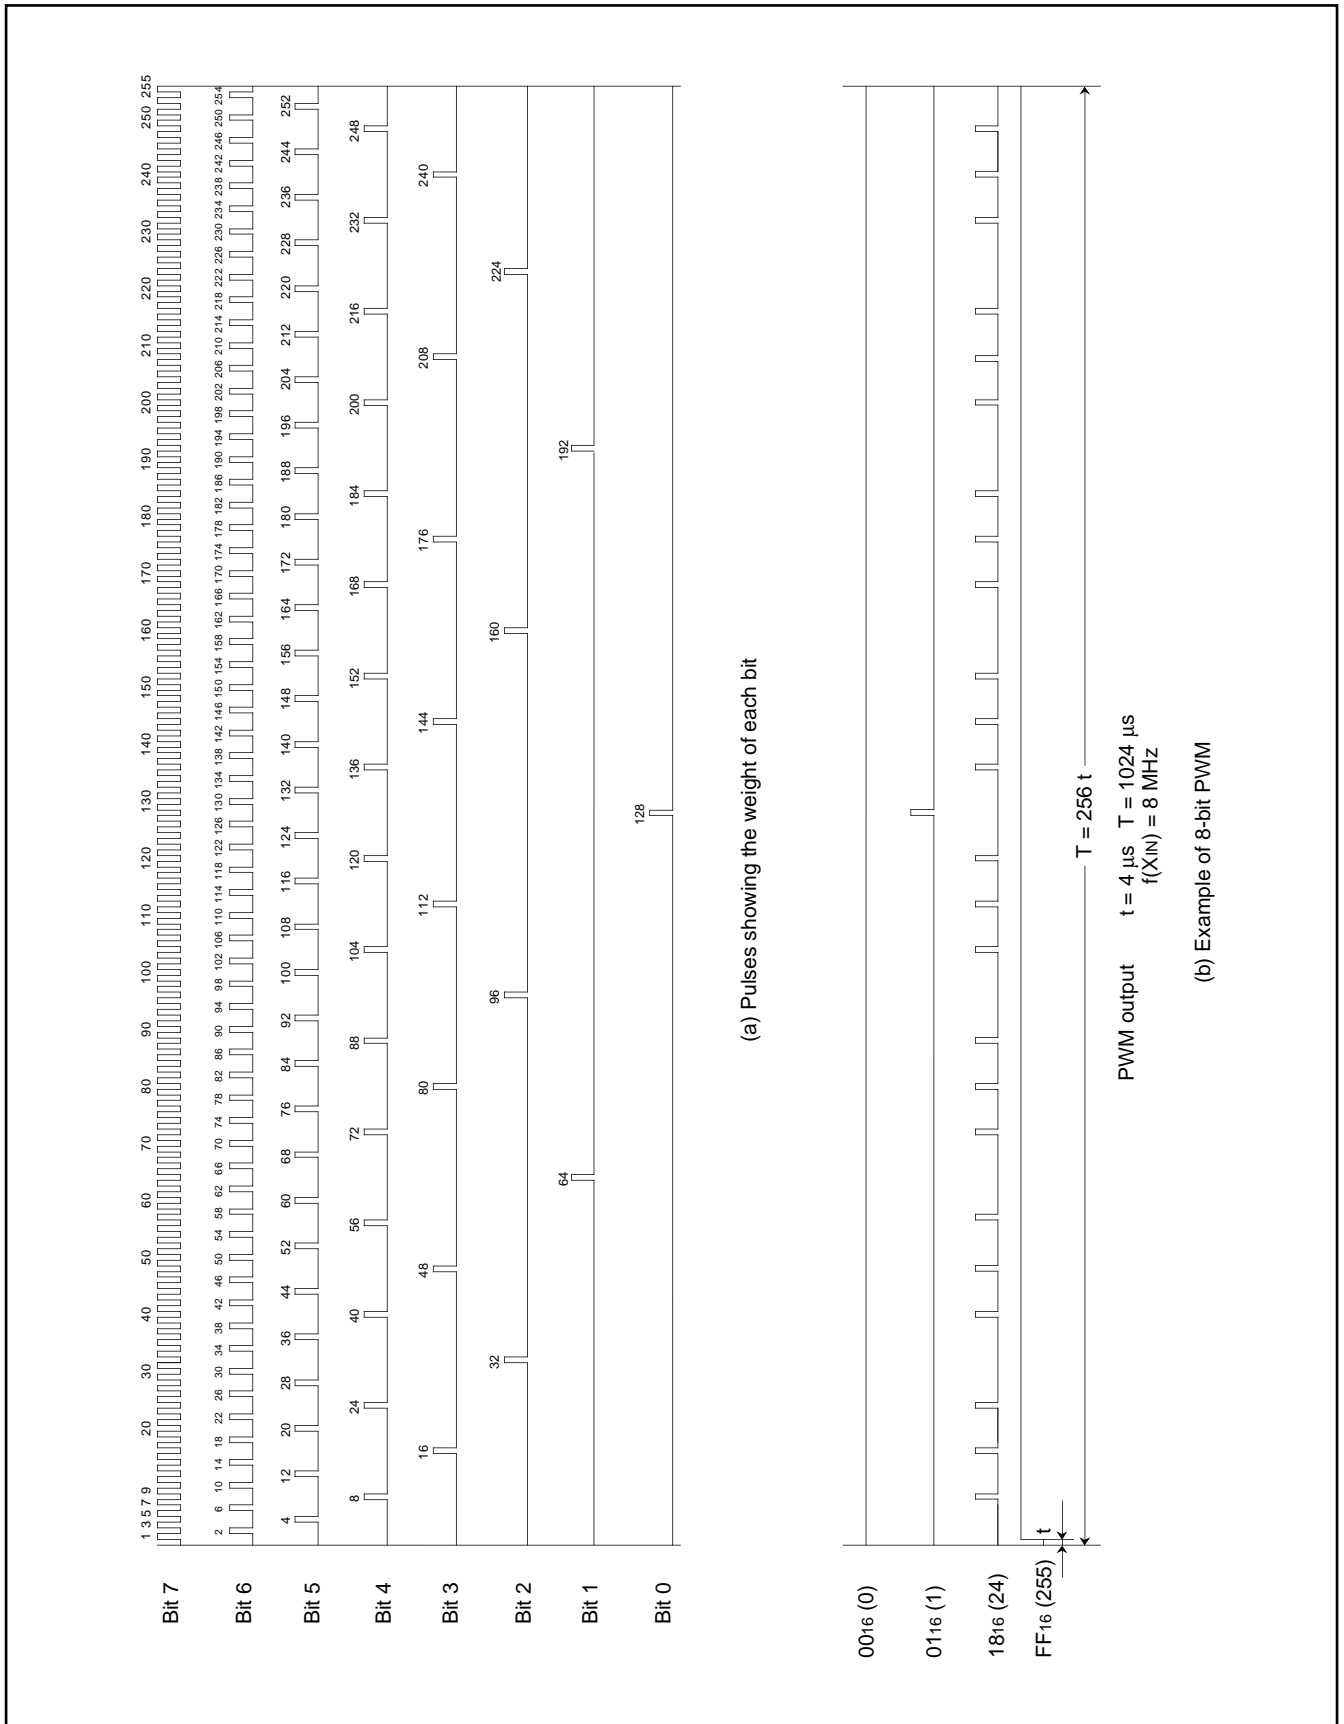

Fig. 26. 8-bit PWM timing
Figure 26 shows the 8-bit PWM timing. One cycle (T) is composed of 256 (2^8) segments. The 8 kinds of pulses relative to the weight of each bit (bits 0 to 7) are output inside the circuit during 1 cycle. Refer to Figure 26 (a). The 8-bit PWM outputs waveform performed a OR operation of pulses corresponding to the contents of bits 0 to 7 of the 8-bit PWM register. Several examples are shown in Figure 26 (b). 256 kinds of output ("H" level area: $0/256$ to $255/256$) are selected by changing the contents of the PWM register. A length of entirely "H" output cannot be output, i.e. $256/256$.
(4) Operating of 14-bit PWM